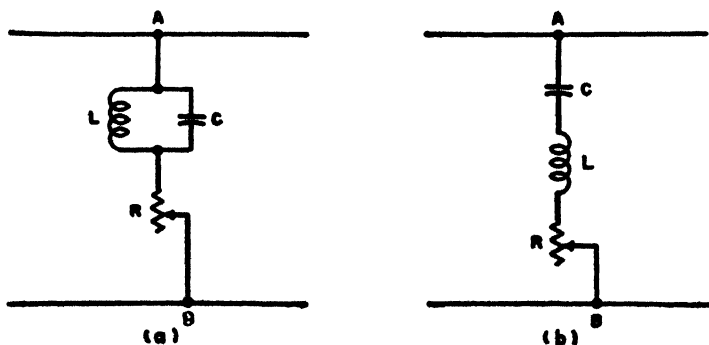

FIG. 4-5.—Line equalizer.
**Ans.** Figure 4-5 illustrates a telephone-line equalizer.